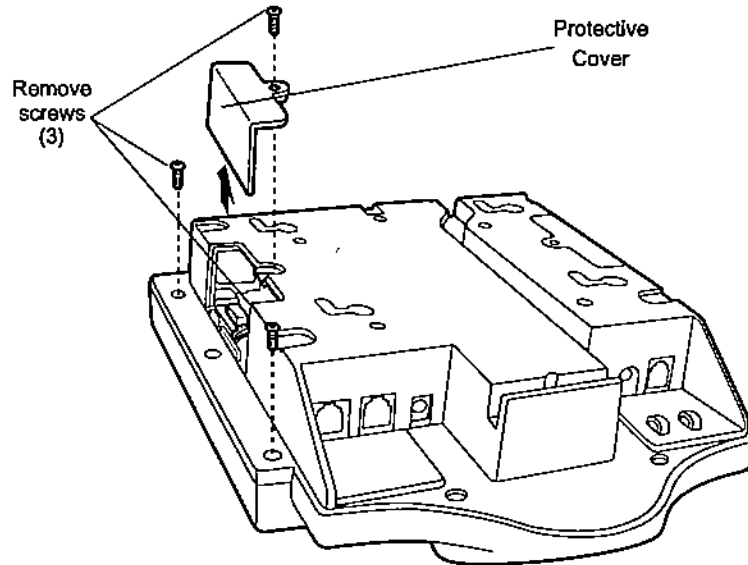

Figure 2-15. Removing the Cover and Screws
2. Remove the three screws shown in Figure 2-15 from the back of the MK2000 and remove the protective cover. Retain only the screw from the protective cover. Two new (longer) screws are provided with the MSR.